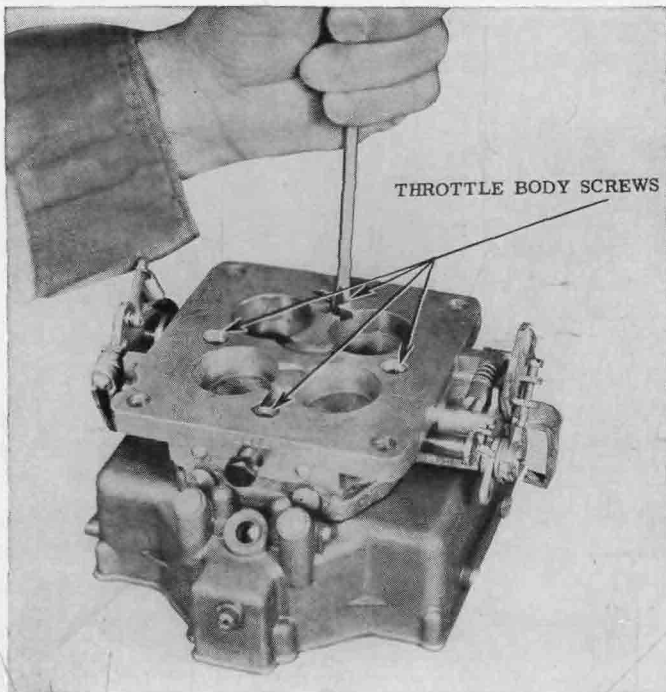

FIG. 10-44. Removing screws attaching the air horn. (*Oldsmobile Division of General Motors Corporation*)
- g. Loosen four screws attaching throttle body to carburetor bowl (Fig. 10-44), and separate body from bowl. Remove gasket.